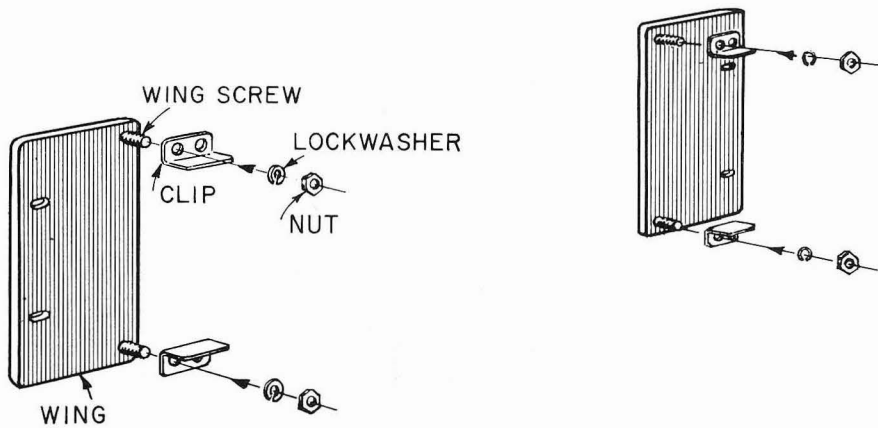

Figure 2-2. Rack Mounting: Wing assembly.
- (d.) Install two clips on each wing using lock washers and nuts provided (see Figure 2-2).